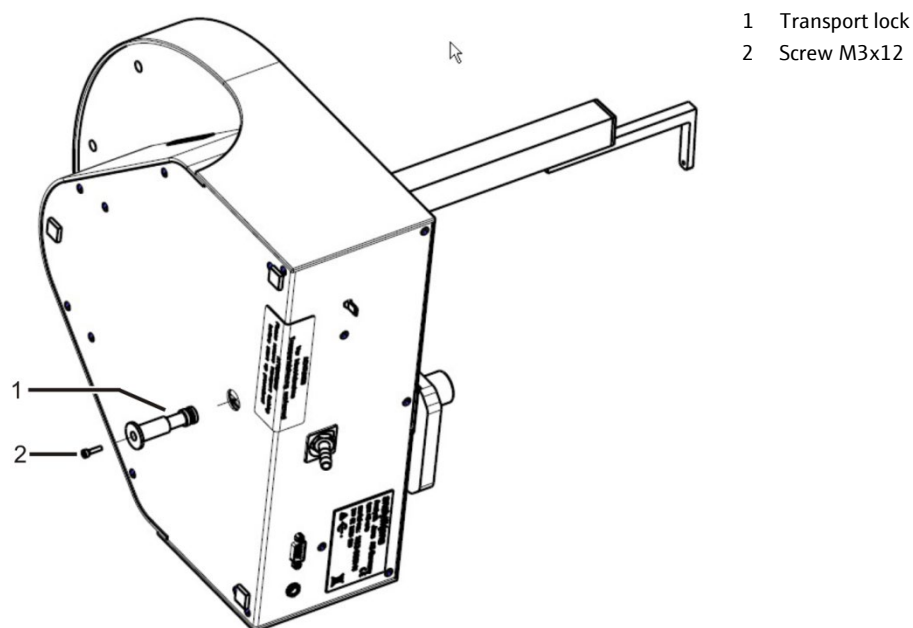

Fig. 16 Transport lock on autosampler AS vario
1. Place the autosampler on the side as shown in Fig. 16.
2. Unscrew the screw (2 in Fig. 16) with the Allen wrench (included in the scope of delivery) and remove the red transport lock.